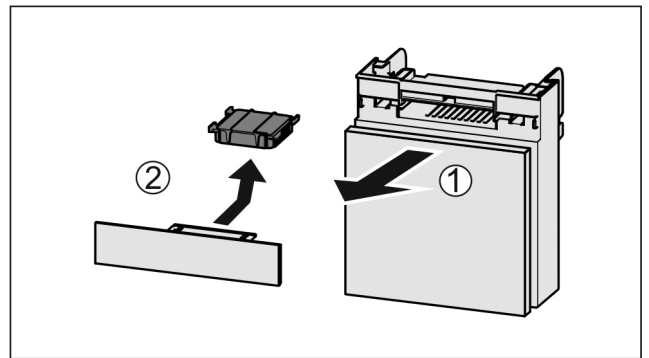

Fig. 91
- ▶ Pull out the compartment Fig. 91 (1).
- ▶ Remove the carbon filter Fig. 91 (2).